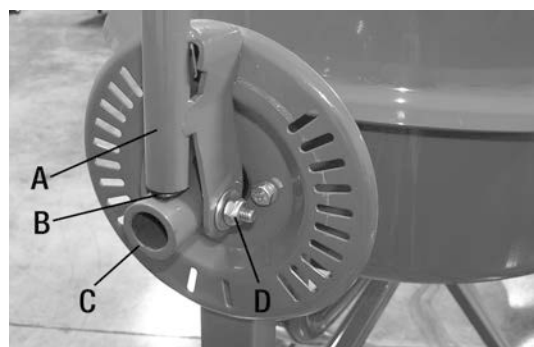

FIGURE 8
2. In order to install the tilting lever assembly, first locate the tilting lever (A) Fig.8 and insert spring (B) inside the tilting lever.
3. Then install the tilting lever (A) to the support bracket shaft (C) using a thick and long hex. bolt, washer and a nylon hex. nut (D). Tighten with a wrench (not included).